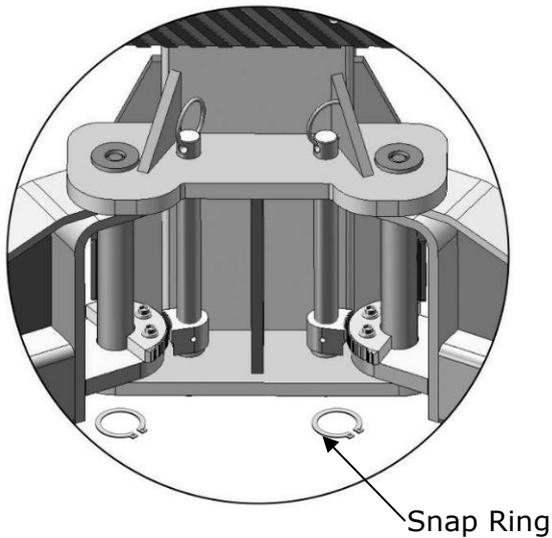
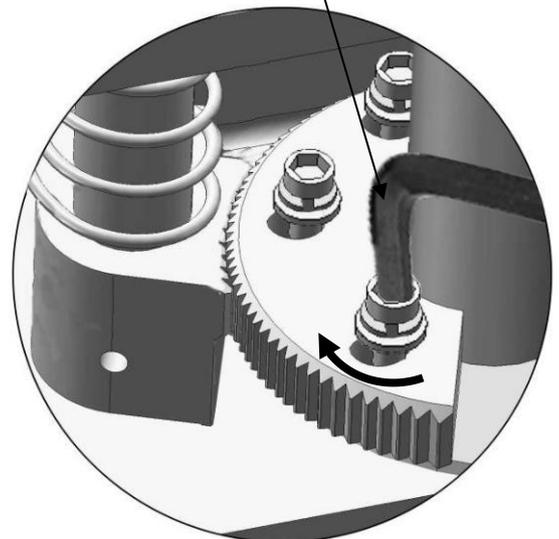
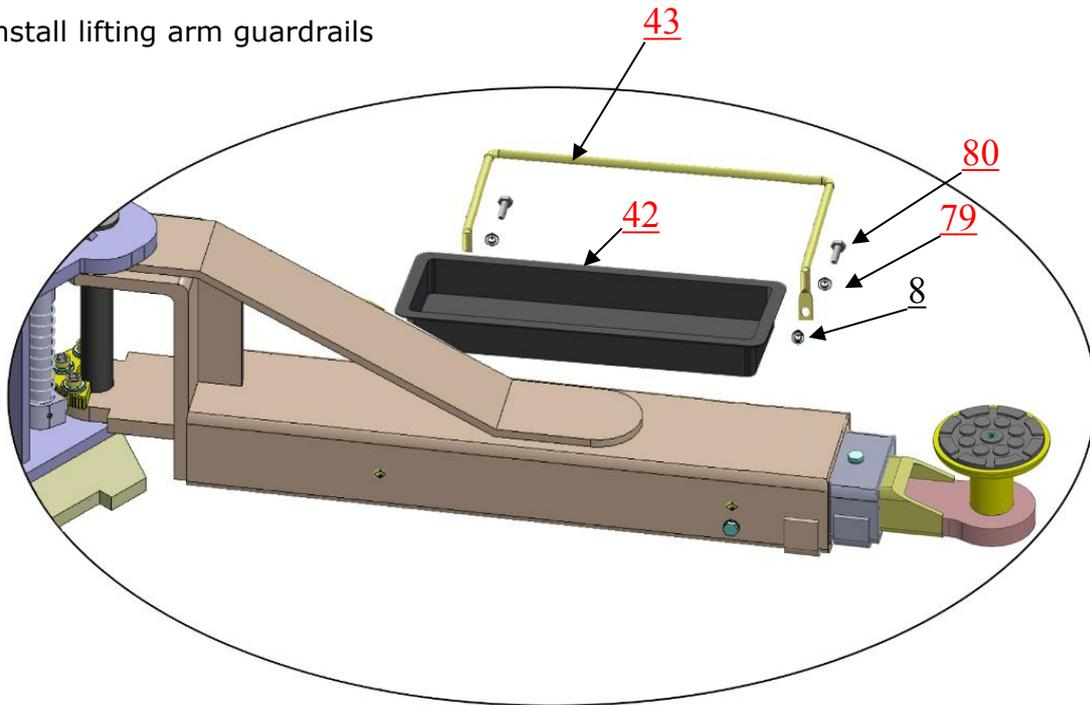

Fig. 26
Fig. 28
Fig. 29
1. After Installing the lifting arms (See Fig. 26) Lowering the carriages down to the lowest position, then use the 8# wrench to loosen the nut of the fixed gear (See Fig. 27). adjust the gear according to the arrow direction(see Fig.28), tighten the screws until the gear and rack mesh in good condition (see Fig.29)